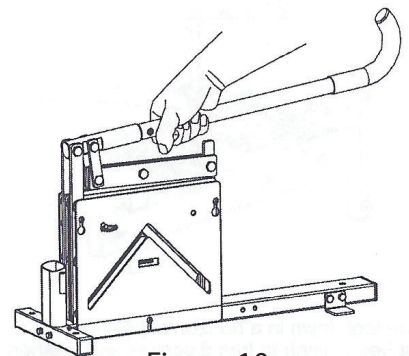

Figure 10
- 4) If transporting the EBC-110, confirm the Safety Pin is fully installed per the instructions above and hold the machine by the Handle. See Figure 10.